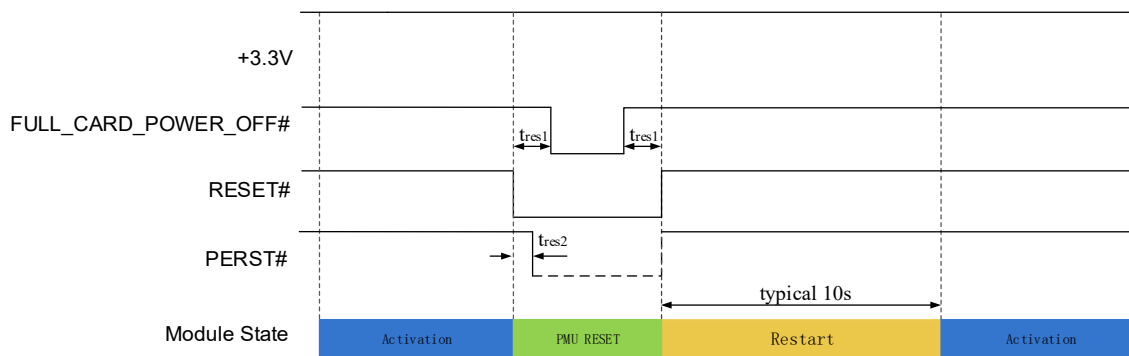

Figure 3-9 Reset control timing2nd
- Host may assert FULL_CARD_POWER_OFF# high when system restarting, module reset timing is shown in the Figure 3-9;